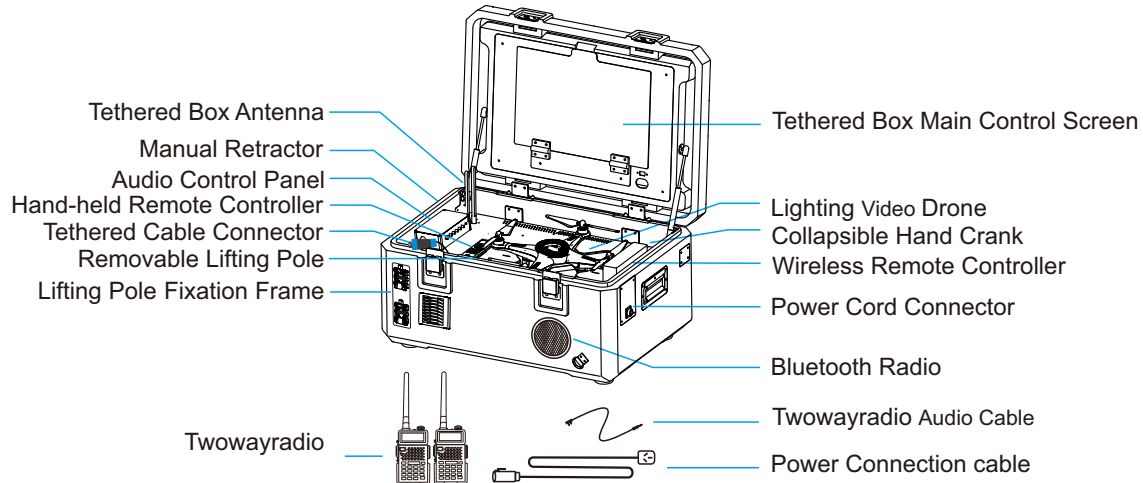

Figure 3: Schematic Diagram Of The Components Of The Tethered Box
a. Components Of The Tethered Box System (Refer To Figure 3)
- ① The Tethered Box: It mainly contains lighting video drone, automatic retracting device, tethering cable, handheld remote controller, Wireless Remote Controller, Tethered Box Main Control Screen, power connecting cable, removable lifting pole, lifting pole fixation frame, collapsible hand crank, audio control panel, twowayradio and other components.
- ② Automatic retractor: Used for automatic recovery of the tethered cable.
- ③ Tether Cable: Used for providing power to the drone and transmitting signals between the integrated box and the lighting drone.
- ④ Hand-held Remote Controller: Used for controlling the drone and lighting system.
- ⑤ Wireless Remote Control: Control the lighting video drone (with display screen) through wireless way.
- ⑥ Tethered Box Main Control Screen: The software function is the same as the wireless remote control.
- ⑦ Power Connection Cable: Used to connect the external power supply.
- ⑧ Removable Lifting Pole: Used for restraining the tethering cable.
- ⑨ Lifting Pole Fixation Frame: Used to fix the removable lifting pole.
- ⑩ Collapsible Hand Crank: For manual retraction.